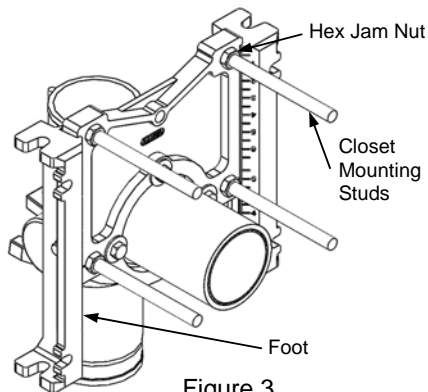

Figure 3
3. Using roughing Hardware Group DP, assemble closet mounting studs to carrier, adjust to 5/8" plus closet flange thickness beyond finished wall line and lock in place with hex jam nut. See figure 3.